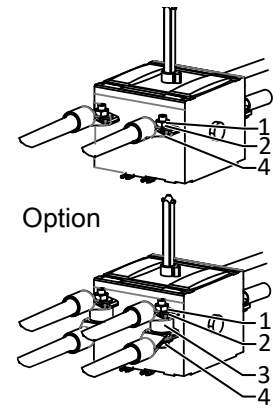

Fig. 30: Fit DC cables to switch
- 1 Fit the DC cables with a ring cable lug. When crimping, ensure that the ring cable lug is rotated in accordance with the final installation position. [See figure 30] [▶ Page 27]